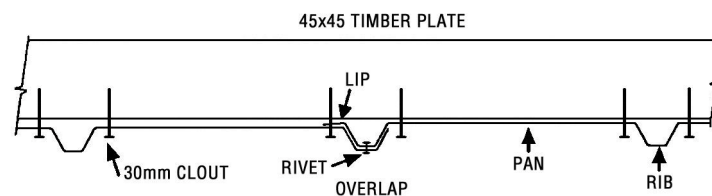

fig. 1
Step 2: Back Wall: Position the first Wall Sheet with the LIP on the right hand side. Ensuring the LIP is flush with the side of the corner Stud and the top of the Wall Sheet is flush with the top of the Top Plate, tack in place. Position the next Wall Sheet with the LIP on the right hand side. Overlap as shown in **fig 1**. Ensuring Wall Sheet is flush with top of Top Plate, tack in place. Repeat with remaining Wall Sheet.